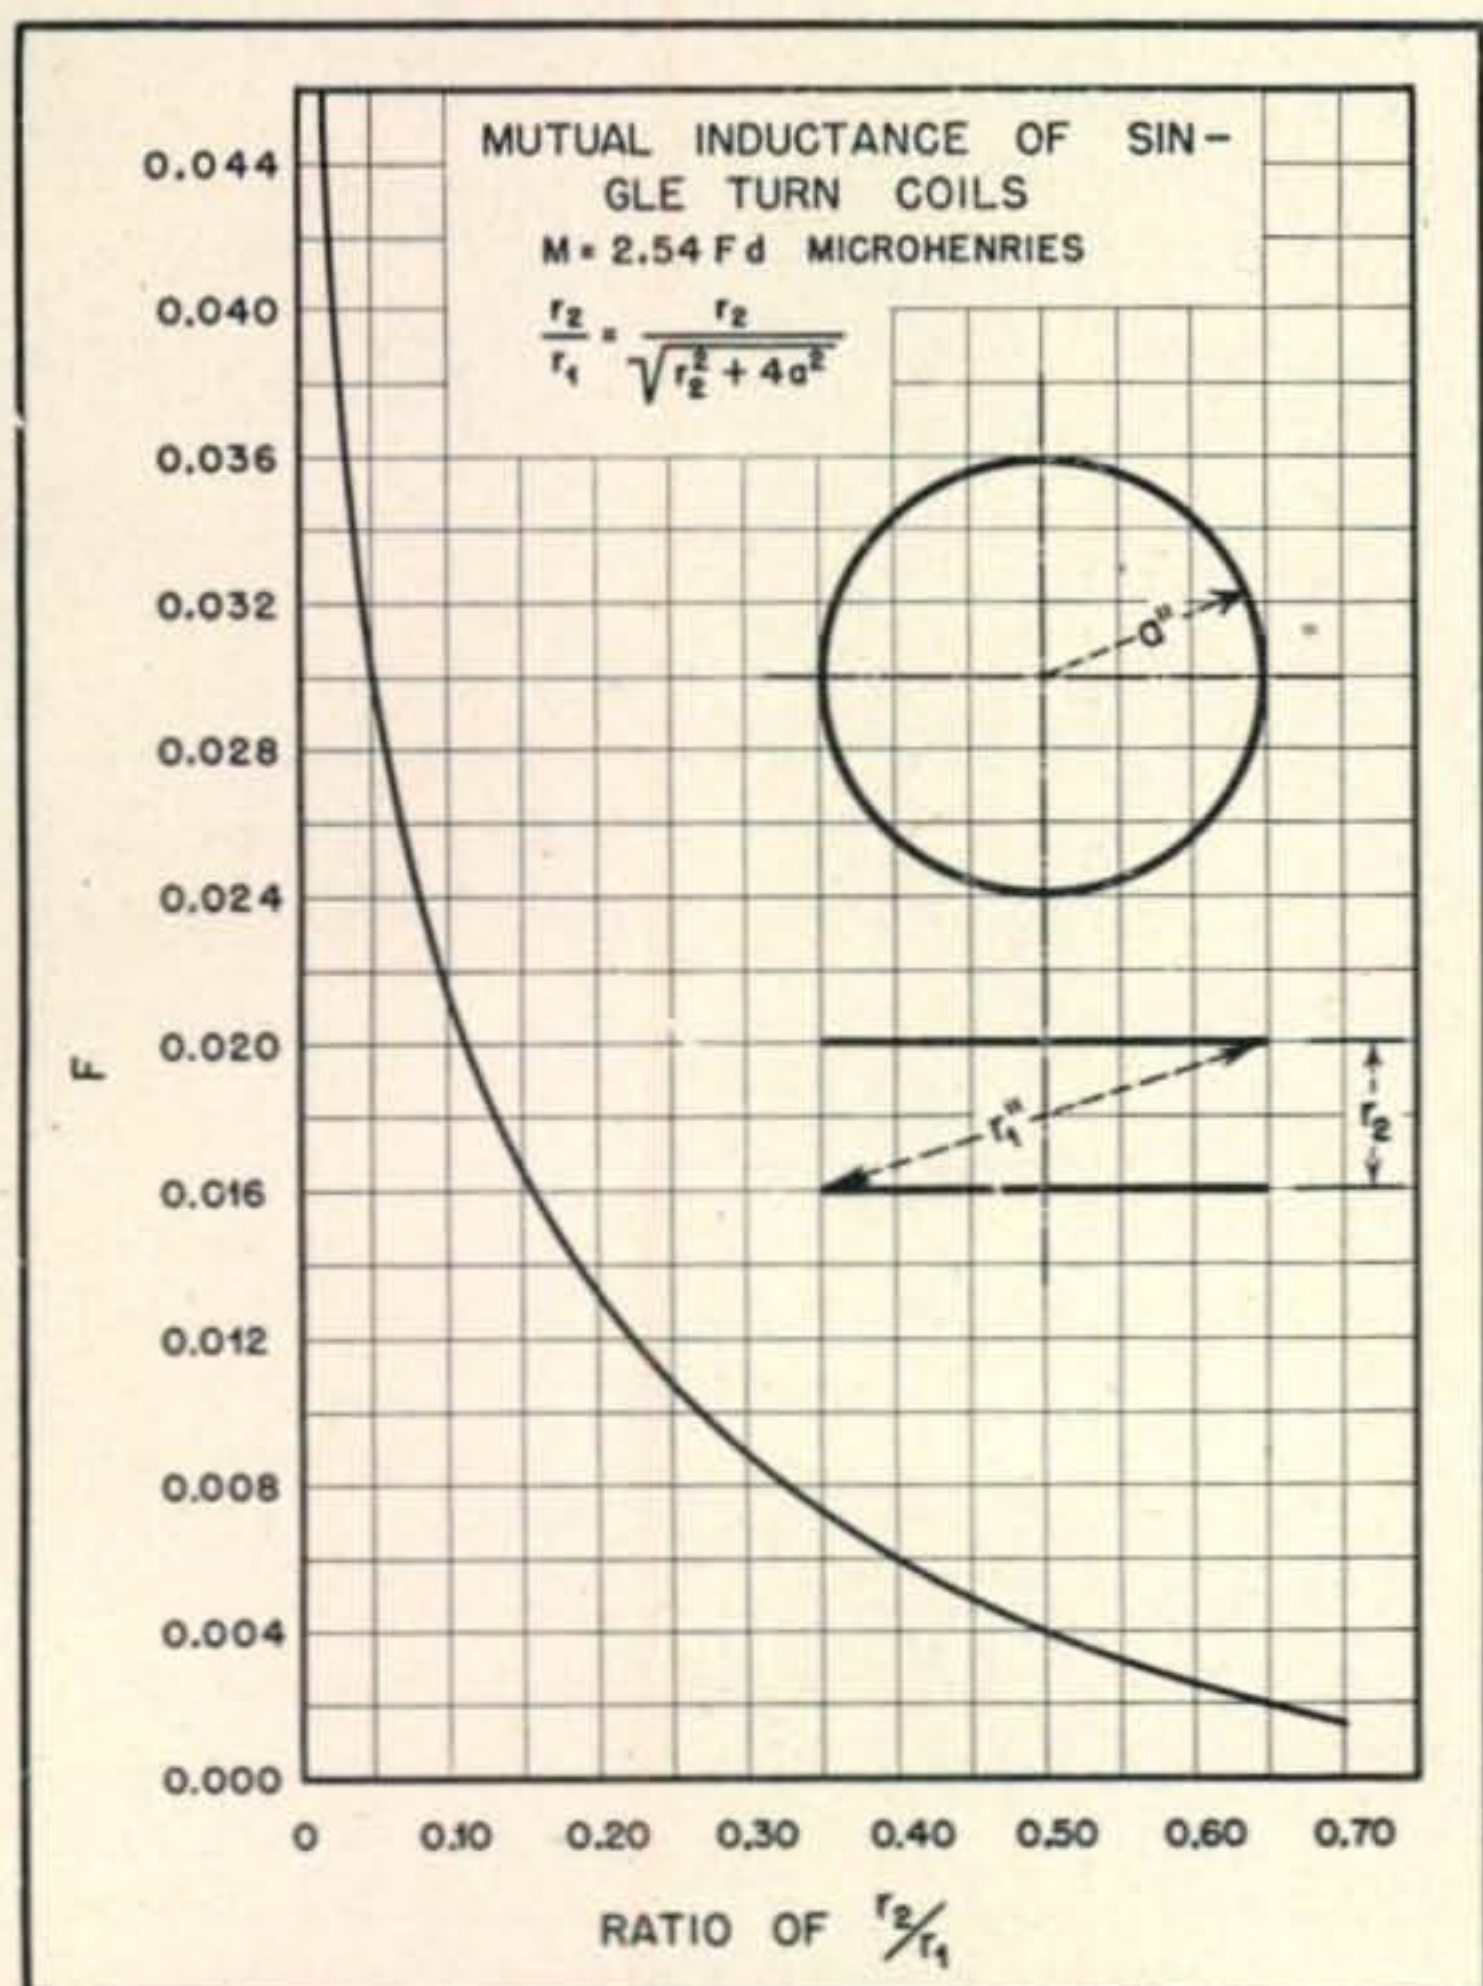

Fig. 4. Graph for derivation of  $F$  in Step 7 to determine mutual inductance of single turn coils.
where  $F$  is given by the curve of Fig. 4, and the ratio  $\frac{r_2}{r_1}$  is given by the expression
where  $r_1$ ,  $r_2$ , and  $a$  are all in inches and represent the dimensions shown in the sketch of Fig. 4. Equa
Referring to the curve of Fig. 4, it is seen that  $F$  is .0178 for a value of  $r_2/r_1$  equal to .1362. The mutual inductance  $M$  is calculated to be, from (7):